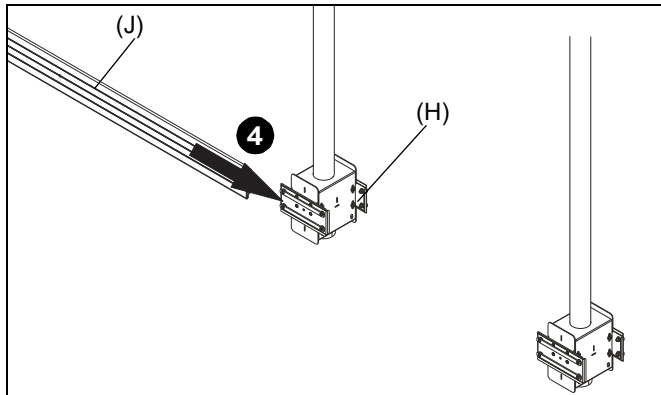

Figure 4
4. Slide 2 x 1 rail (J) onto one of two assemblies (H) attached to column. (See Figure 4)